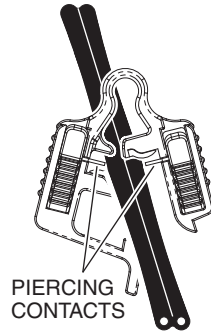

Fig. 10
1. Open main section of clip on the connector. (Fig. 10)